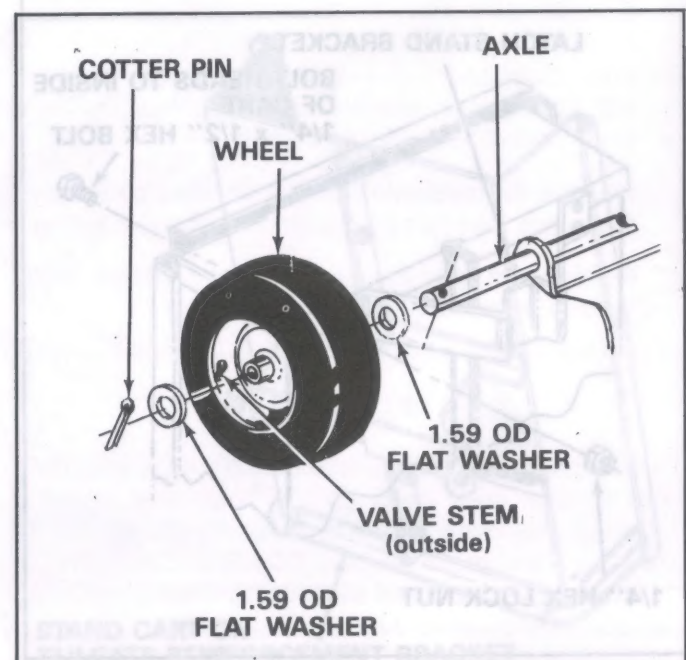

FIGURE 13
Position valve stem to outside when installing wheels on axle. See figure 13.
19. Assemble wheels as described in step 19, using flat washers and cotter pins. See figure 13.